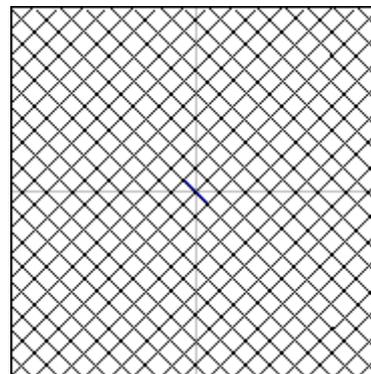

Fig. 3.2.10
**Angle Step:** The progressive angle of each hatch line. Fig.3.2.10 show the fill representation when Angle Start is  $45^\circ$  and Angle Step is  $90^\circ$ .